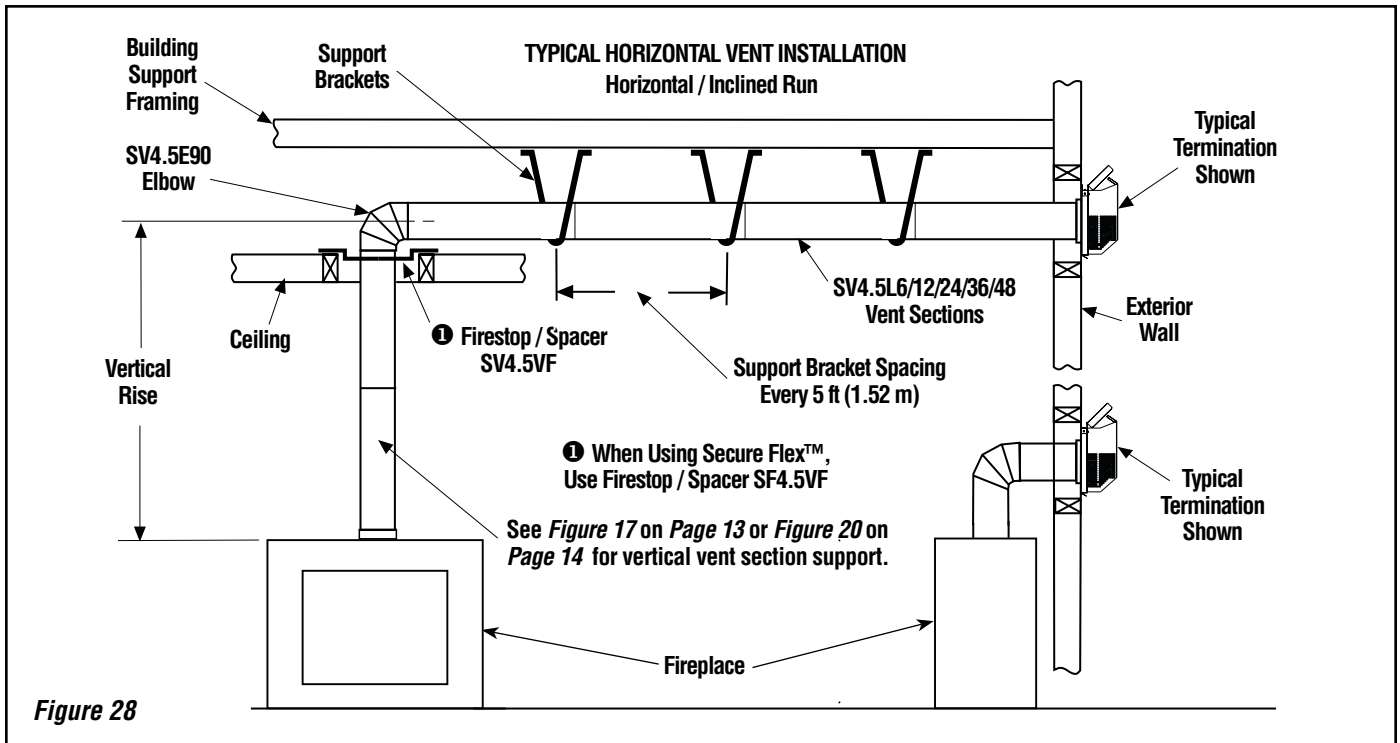
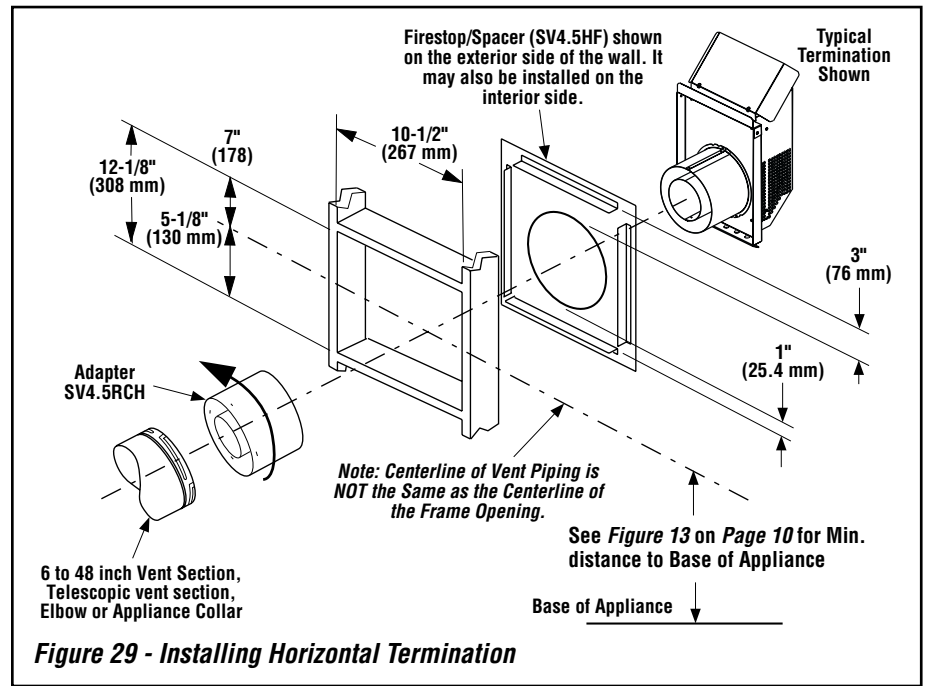

Figure 28
Figure 29 - Installing Horizontal Termination
G. Continue installation of horizontal/inclined sections - Continue with the installation of the straight vent sections in horizontal/inclined run as described in **Step C**. Install support straps every 5 ft. (1.52 m) along horizontal/inclined vent runs using conventional plumber's tape. **See Page 18, Figure 28. It is very important that the horizontal/inclined run be maintained in a straight (no dips) and recommended to be in a slightly elevated plane, in a direction away from the fireplace of 1/4" rise per foot (20 mm per meter) which is ideal,** though rise per foot run ratios that are smaller are acceptable all the way down to at or near level. Use a carpenter's level to measure from a constant surface and adjust the support straps as necessary.
See **Figure 28** on **Page 18**, and **Figures 29 through 34** on **Pages 19 through 22** and their associated Horizontal Vent Table which illustrate the various horizontal venting configurations that are possible for use with these appliances. **Secure Vent™** pipe applications are shown in these Figures; **Secure Flex™** pipe may also be used. A Horizontal Vent Table summarizes each system's minimum and maximum vertical and horizontal length values that can be used to design and install the vent components in a variety of applications.
I. Continue installation of horizontal/inclined sections - Continue with the installation of the straight vent sections in horizontal/inclined run as described in **Step E**. Install support straps every 5 ft. (1.52 m) along horizontal/inclined vent runs using conventional plumber's tape. See **Figure 28. It is very important that the horizontal/inclined run be maintained in a straight (no dips) and recommended to be in a slightly elevated plane, in a direction away from the fireplace of 1/4" rise per foot (20 mm per meter) which is ideal**, though rise per foot run ratios that are smaller are acceptable all the way down to at or near level.
K. Attach termination adaptor - Attach the adaptor (SV4.5RCH - provided with the termination) to the vent section or telescoping vent section, elbow or appliance collar as shown in **Figure 29** in the same manner as any SV4.5 vent component (refer to **Step E**).
L. Install Firestop/Spacer at exterior wall - When using the termination, install SV4.5HF (**Secure Vent™**), SF4.5HF (**Secure Flex™**) Firestop/Spacer over the opening at the exterior side of the framing, long side up, with the 3 inch spacer clearance at the top as shown in **Figure 29**, and nail into place.